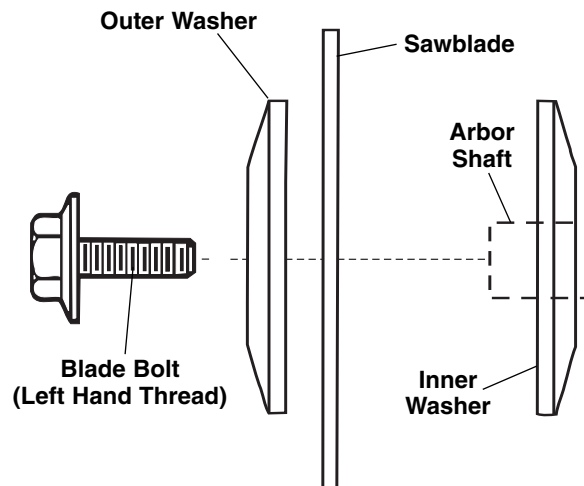

Figure 2. Blade Hardware
5. Remove the blade bolt, outer washer and the blade. Do not remove inner washer (Figure 2).